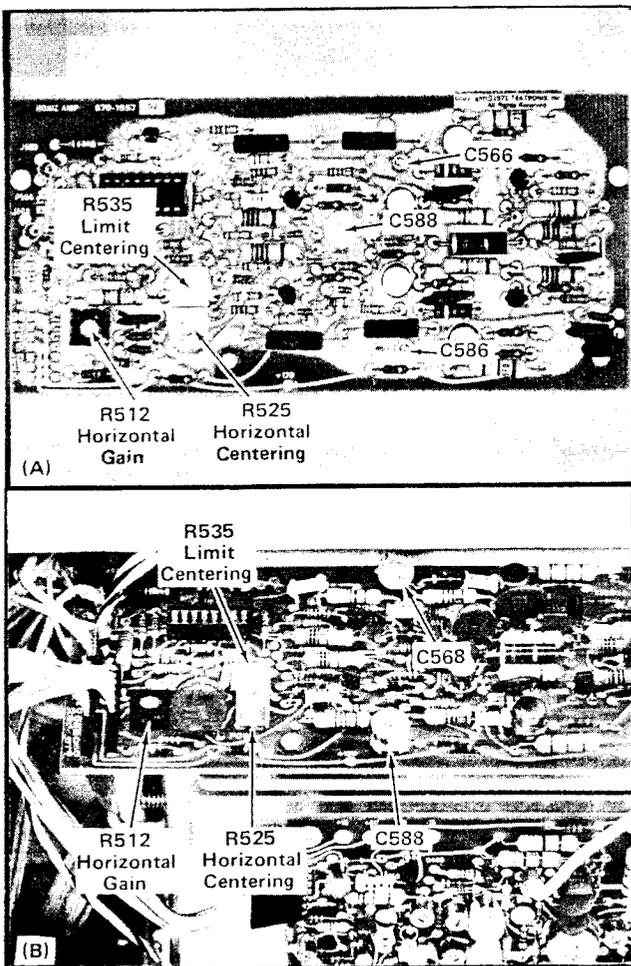

Fig. 3-6. Location of Horizontal adjustments (Horizontal Amplifier board). (A) SNB030000-up; (B) Below SNB030000.
h. ADJUST—Limit Centering adjustment R535 (see Fig. 3-6) to match the DC levels of both waveforms.
c. ADJUST—Horizontal Centering adjustment R525 (see Fig. 3-6) to position the spot to the vertical center line.
f. ADJUST—Horizontal Gain adjustment R512 (see Fig. 3-6) for exactly eight divisions of deflection between the second and eighth traces.